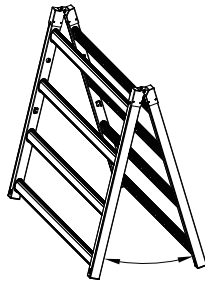

Figure 2
- 2: Take the light out and unfold. (Figure 2)